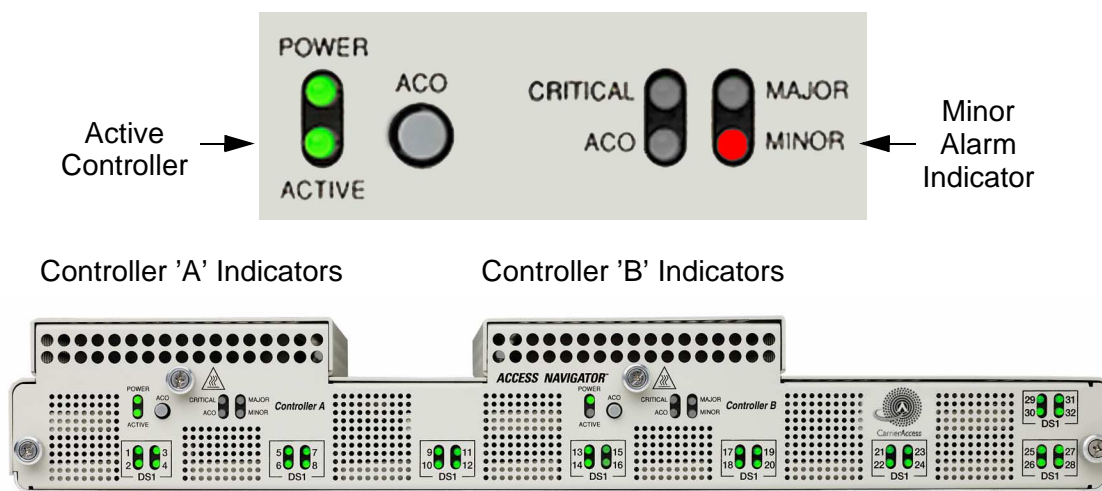

Figure 6-32. Location of Active Controller and Minor Alarm Indicators
**Requirement:** Contact closure on any alarm input wire pair produces Minor Alarm indication on active Controller card (see Figure 6-32).